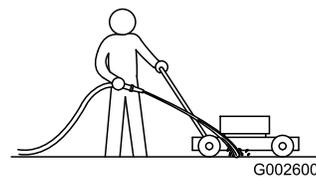

Figure 48
- With the engine running on a flat paved surface, spray a stream of water in front of the **right** rear wheel (Figure 48).